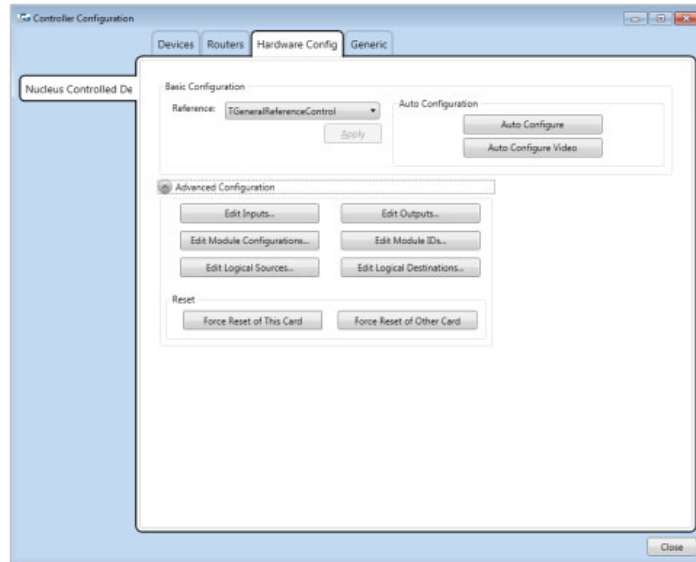

Figure 39 Workbench Hardware Config Tab
11. Click on the **Auto Configure** button in the **Hardware Config** tab (see Figure 39). This will take a few minutes to update.